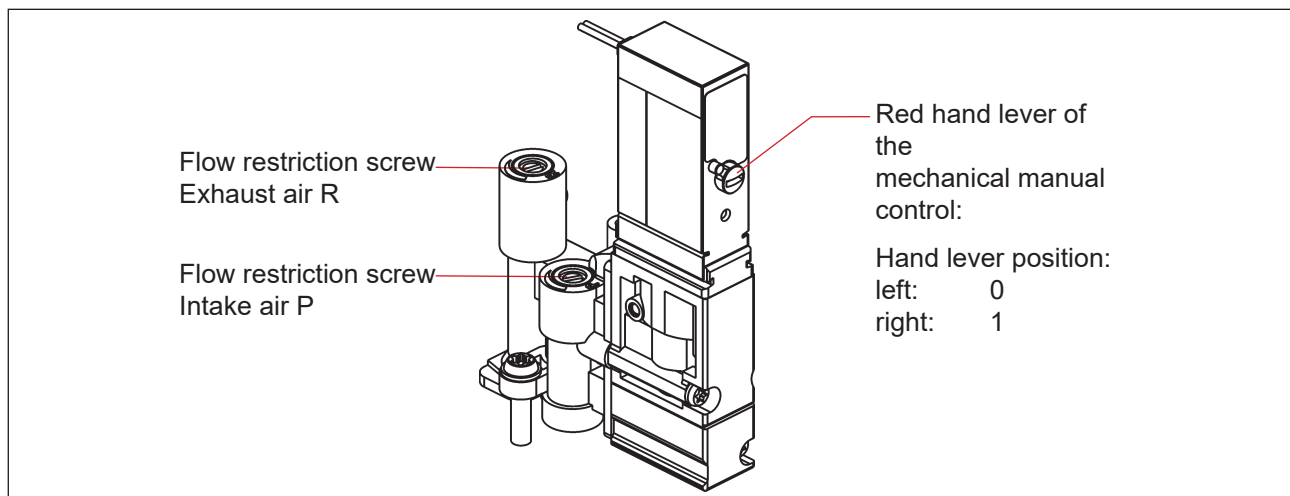

Fig. 6: Flow restriction screws and mechanical manual control of the pilot valves
on each equipped pilot valve, accessible only when the housing is open (“Fig. 6”)
- The **capability of restricting the pilot valves** for the individual setting of the expansion and retraction rates of the process valve and the individual setting of the flow-rate of the working connections (see “Fig. 6: Flow restriction screws and mechanical manual control of the pilot valves” on page 20)